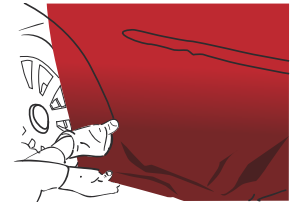

Figure 09
- Apply the peak with your finger or a felt-covered plastic squeegee. (FIG. 09)